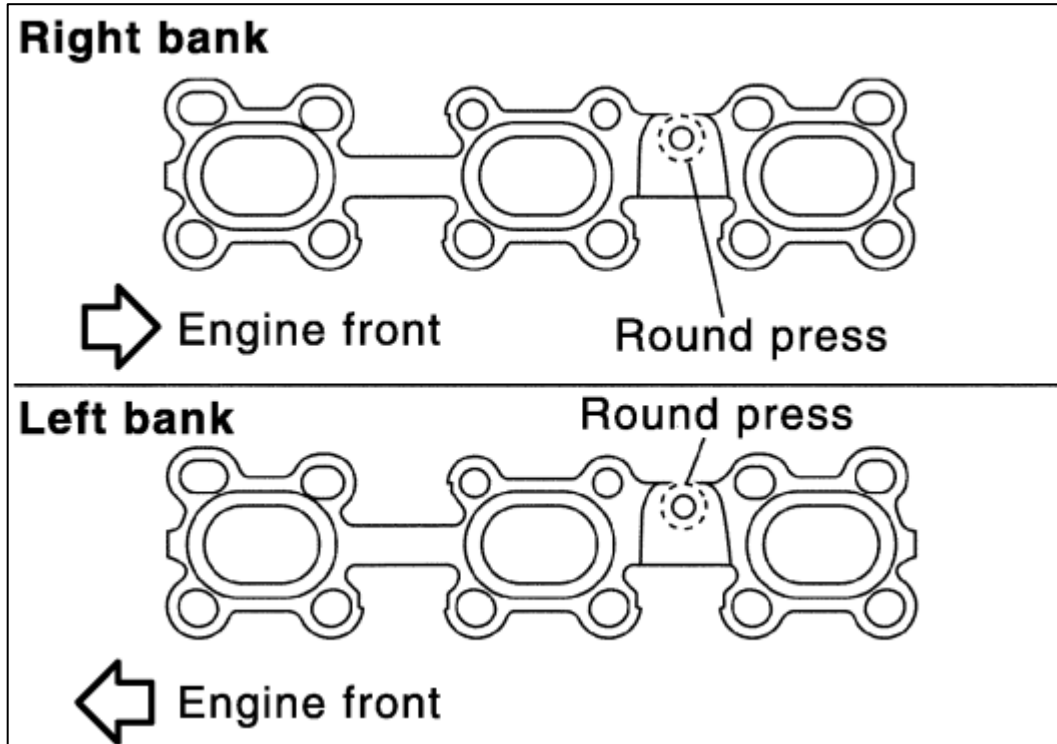

Figure 8
- 20. Reinstall Manifold Gaskets or new ones. Make sure the Gaskets are oriented correctly as shown below in *Figure 8*.